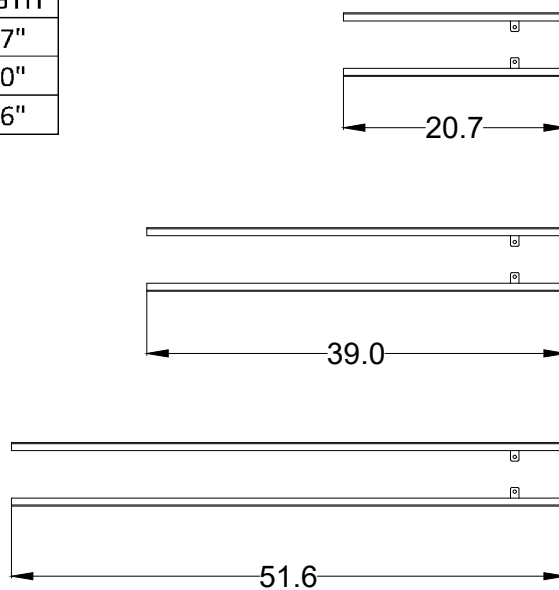

FIGURE 4
4. Identify and match the channel length with the worksurface width (Figure 4) .